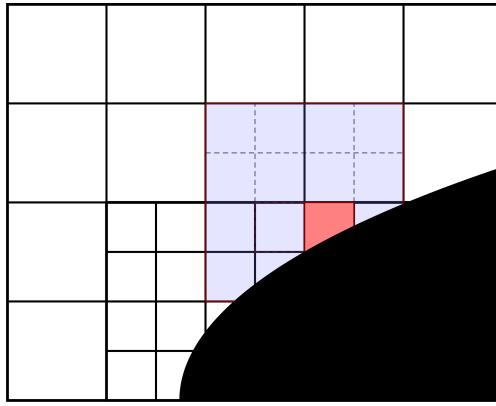

Fig. 3.7.3: Example of the region of a second order stencil for the Laplacian operator with second order gradient reconstruction on the embedded boundary.
Note that the gradient reconstruction can end up requiring more than one ghost cell layer near the embedded boundaries. For example, Fig. 3.7.3 shows a typical stencil region which is built when using second order gradient reconstruction on the EB. In this case the gradient reconstruction requires a stencil with a radius of 2, but as the cut-cell lies on the refinement boundary the stencil reaches into two layers of ghost cells. For the same reason, gradient reconstruction near the cut-cells might require interpolation of corner ghost cells on refinement boundaries.
1. Cut-cell stencils may have a large radius (see Fig. 3.7.3) and thus require more ghost cell layers.
Figure Fig. 3.7.5 shows a typical interpolation stencil for the stencil in Fig. 3.7.3. Here, the open circle indicates the ghost cell to be interpolated, and we interpolate the solution in this cell using neighboring grid cells (closed circles). For this particular case there are 10 nearby grid cells available, which is sufficient for second order interpolation (which require at least 6 cells in 2D).